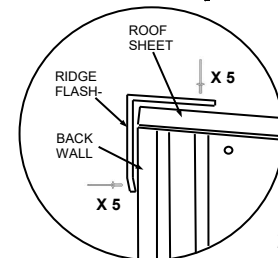

fig. 2
- Position the Roof Sheets with the back lining up with the outside edge of the back wall cladding as in (**fig.2**).
- Rivet Ridge Flashing to roof and back wall, riveting at the ends and at each join of the roof sheets (**fig. 2**).